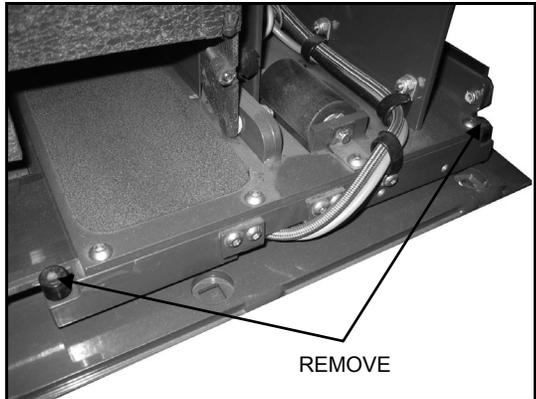

FIGURE 3-15
12. Refer to **Figures 3-15**. Remove the retaining screws for each roller replacement.